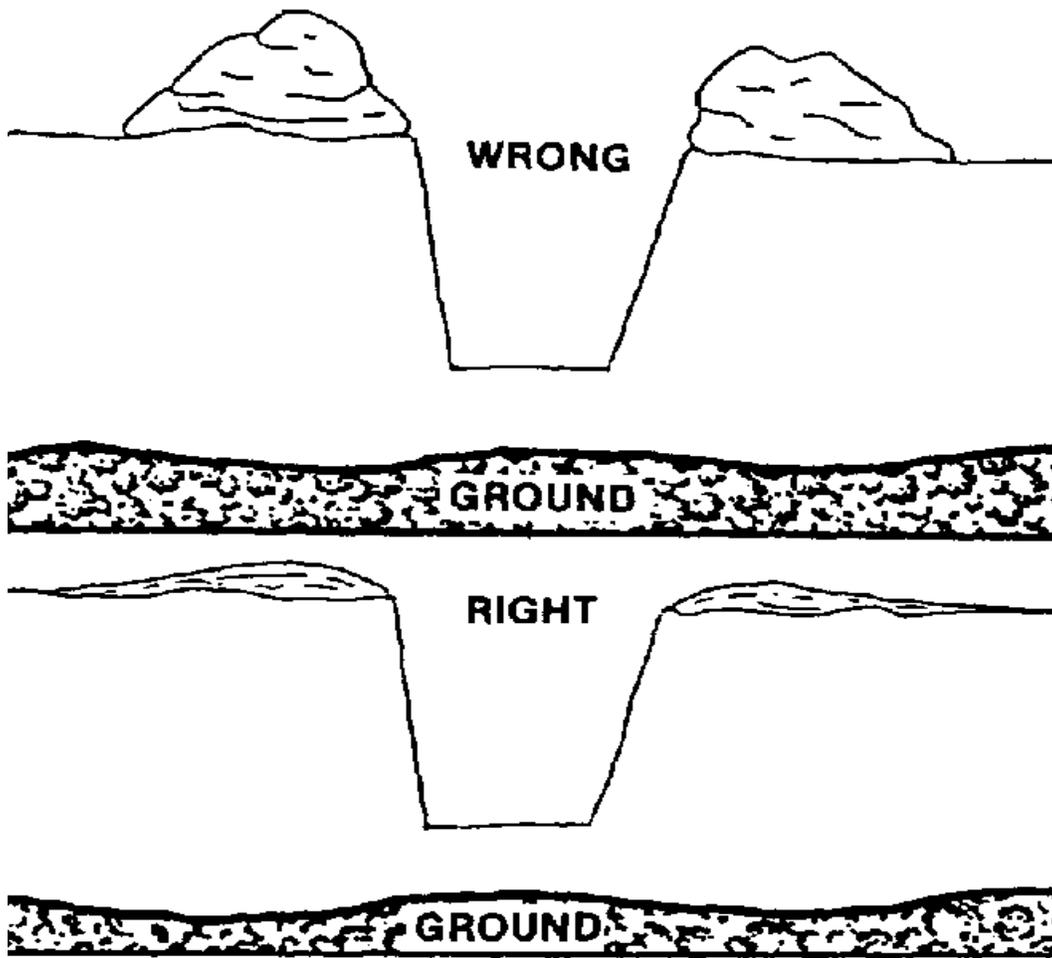

Fig. 13-5
- d. Snow Trench - Dug into any deep snow, ideally should be deep enough to stand erect in (see fig. 13-5)